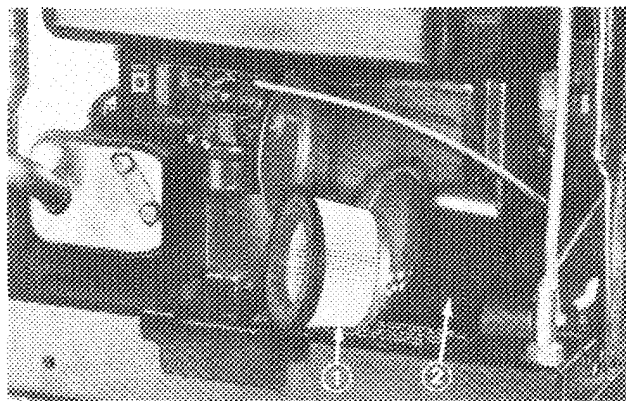

Figure 17
3. Rotate air cleaner cover counterclockwise and slide cover off heads of screws (Fig. 17).